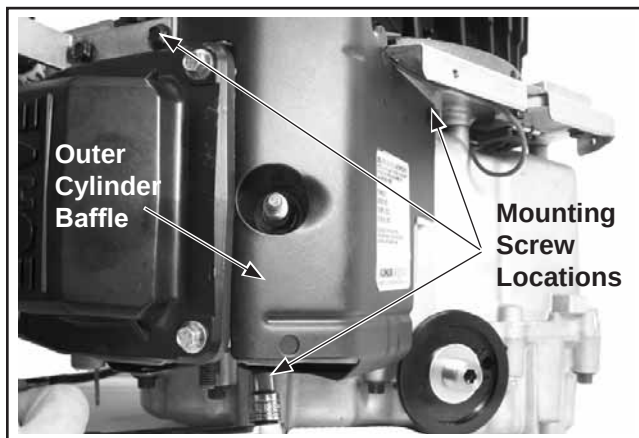

Figure 10-63. Installing Outer Cylinder Baffles.
1. Attach the outer cylinder baffles and secure with the M6 screw (lower cylinder location), and M5 screw into the backing plate. See Figure 10-63. Tighten the screws as listed following Step 2.